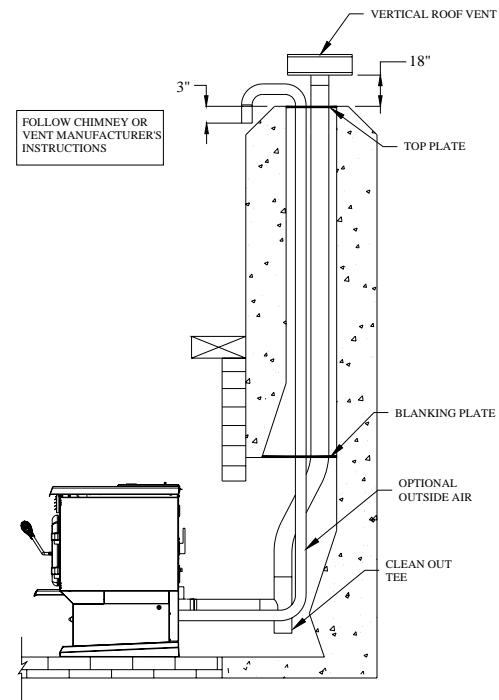

Figure 19
3. Install a blanking plate and the chimney pipe, and if used the outside air pipe, as shown in Figure 19.